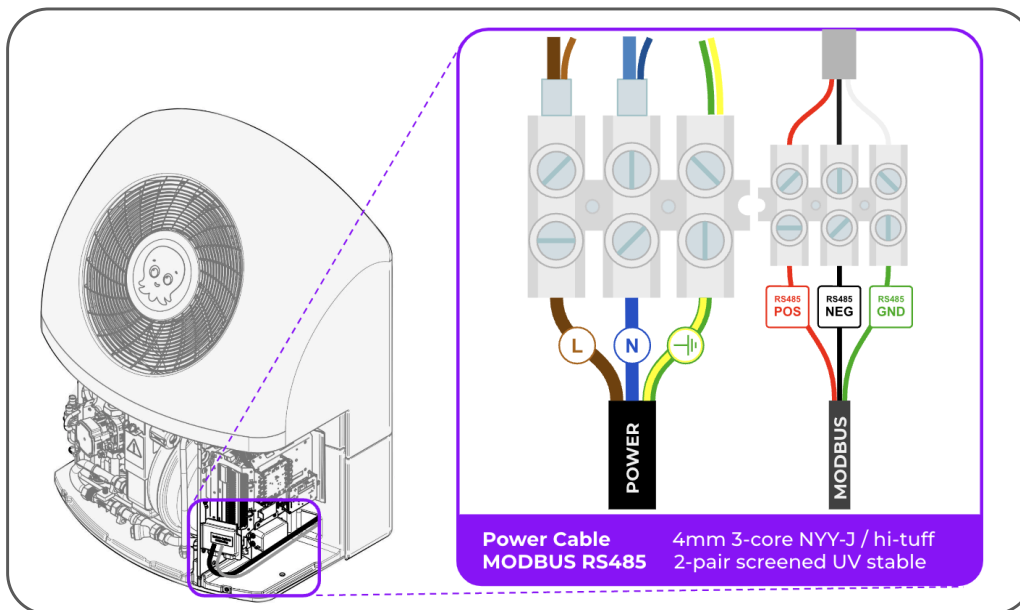

Figure 9.12 - Wiring diagram
6. Remove terminal cover and connect wires into provided terminal blocks according to *Figure 9.12* below. Connections should be hand-tightened, ensuring sufficient purchase on the wire ends to prevent slipping/loosening due to vibrations.